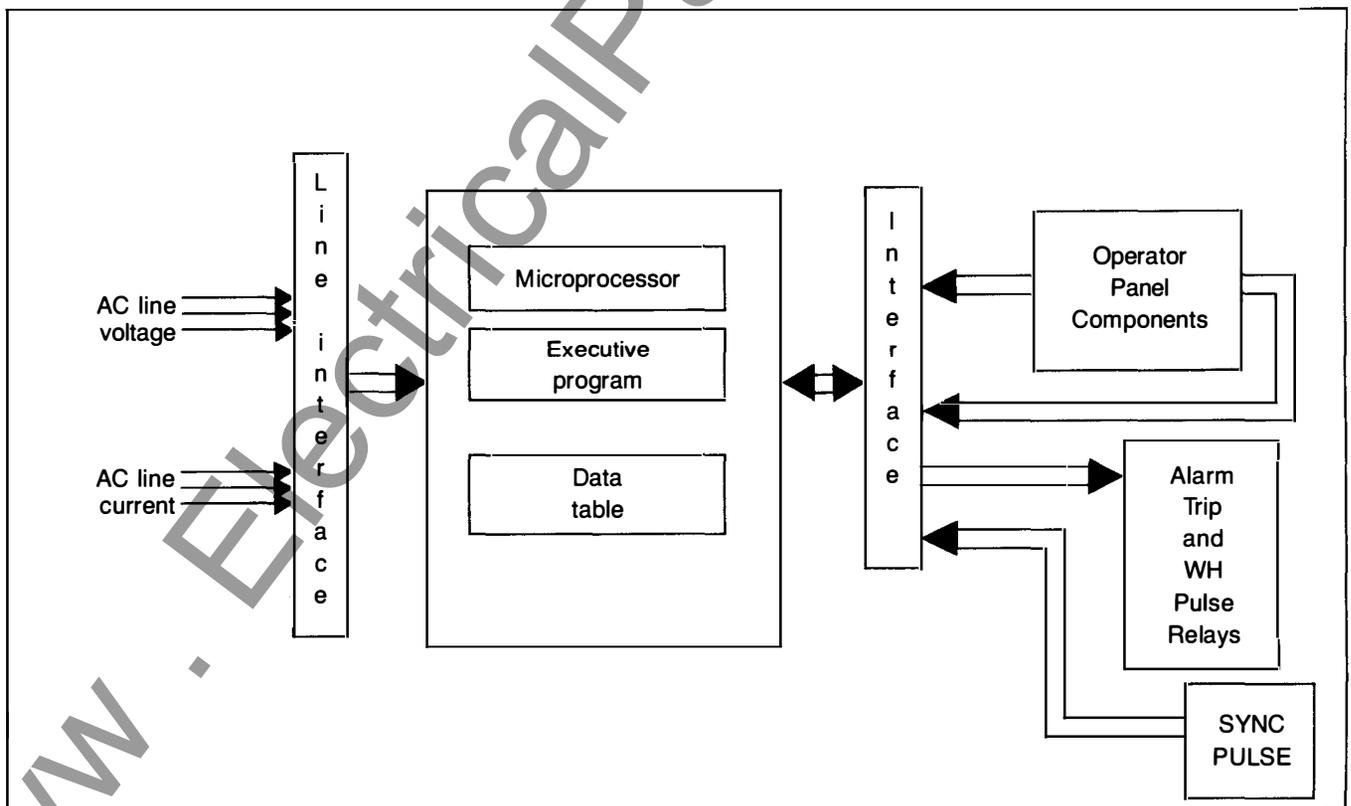

Figure 5.1 — IQ Data Plus II Basic Block
5.1 Basic Block — The IQ Data Plus II is controlled by a self-contained microprocessor which is directed by an “executive program” resident in ROM (read-only memory). (See Figure 5.1.) The microprocessor directs the following 4 operations: